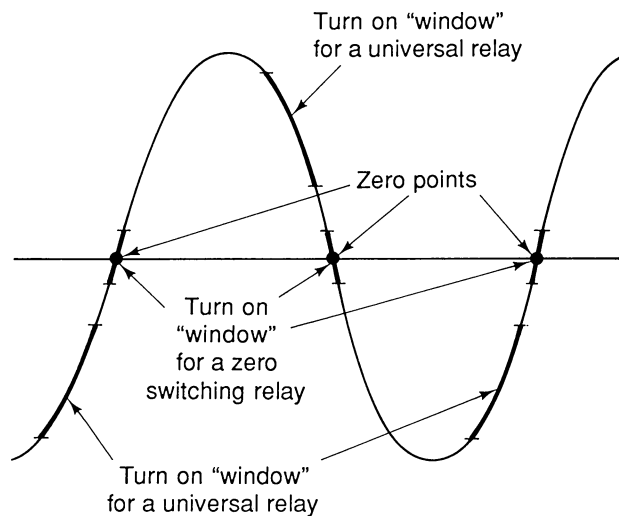

Fig. 7-26 Zero points and universal relay turn-on windows.
The instant-on (IO) type turns on *immediately* as soon as the control input is switched. That means that it can turn on at any point on the sine wave. However, the turn-off of the instant-on type is always at the zero point where the current crosses the zero point of the sine wave (Fig. 7-26).
The universal-type solid-state relay turns on within a given *window* on the ac sine wave (Fig. 7-26). The universal relay does not turn on at the zero point or at the peak of the sine wave. This type of relay can turn on only inside the given window. The universal relay turns off at zero current, just as in the other two basic types of solid-state relays.